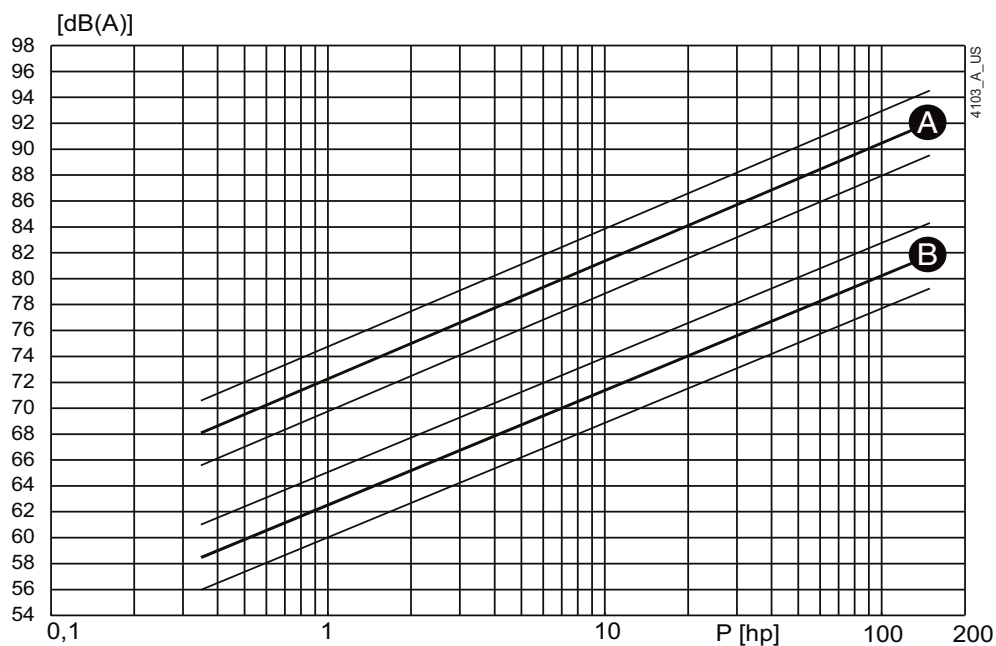
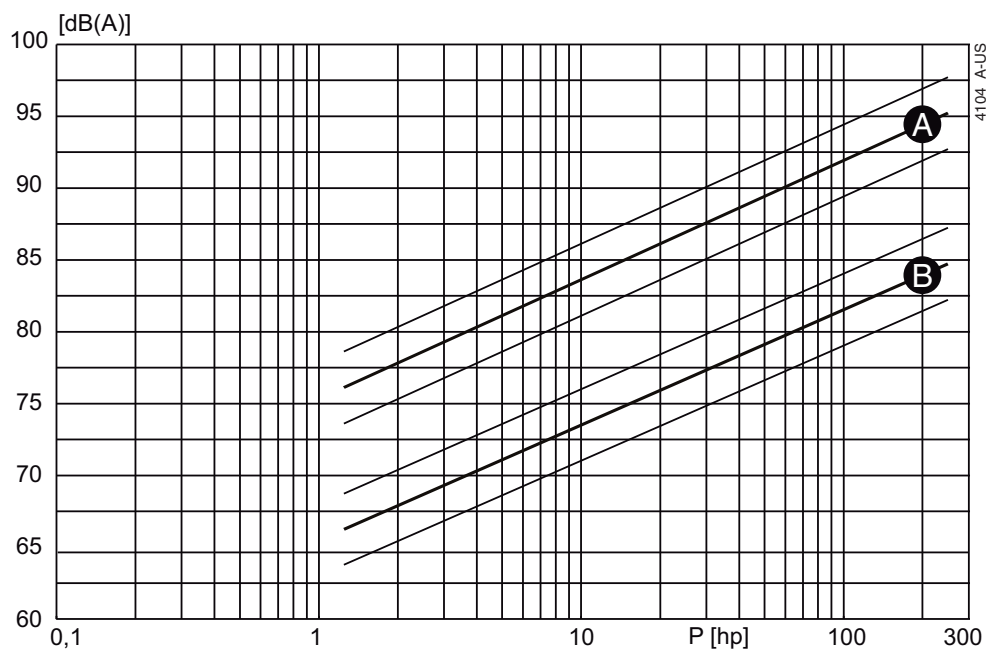

Figure 19: Noise level as function of pump power [Hp] at 1750 rpm
Figure 20: Noise level as function of pump power [Hp] at 3500 rpm
- 1 Determine the noise level (L1) of the pump, see figure 19 or figure 20.